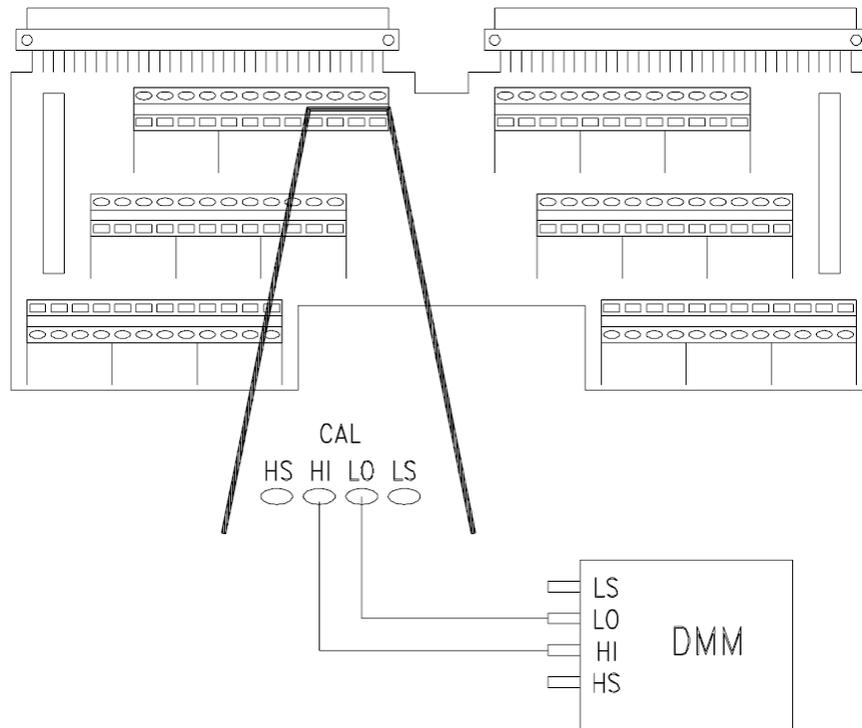

Figure D-2 Voltage Calibration Connections (CAL)
- 1 Make the connections shown in Figure D-2 or D-3.